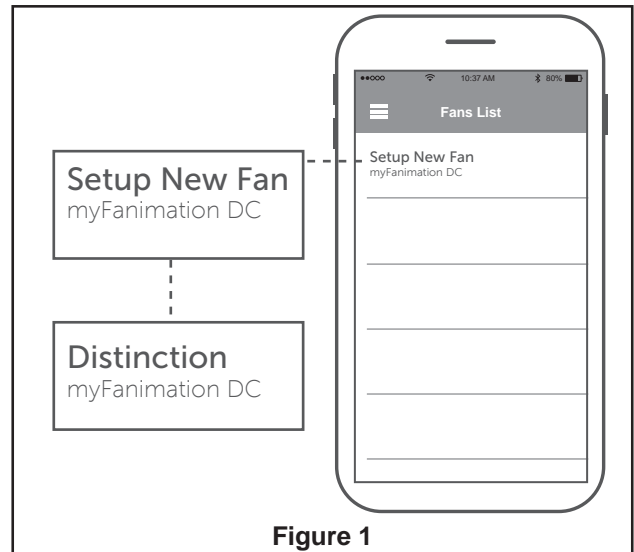

Figure 1
- 1. **Installing Wall Holder:** (Figure 1)
1. Open the fanSync app and tap the new fan to begin setup. (Figure 1)